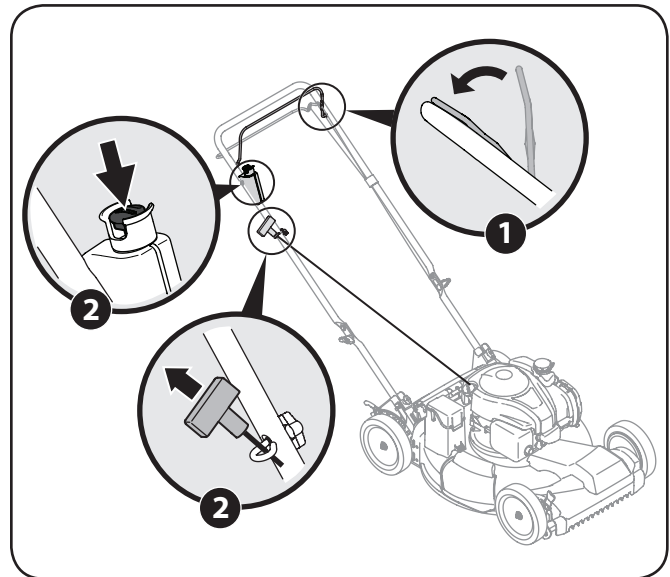

Figure 5-1
1. Standing behind the mower, squeeze the blade control against upper handle. See Figure 5-1.
2. **Recoil Start:** Holding these two handles together firmly, grasp recoil starter handle and pull rope out with a rapid, continuous, full arm stroke. See Figure 5-1. Keeping a firm grip on the starter handle, let the rope rewind slowly. Repeat until engine cranks. Let the rope rewind each time slowly.
**Electric Start (If Equipped):** Insert plastic push key into starter button until it snaps in. Push the electric starter button to start the engine. See Figure 5-1.